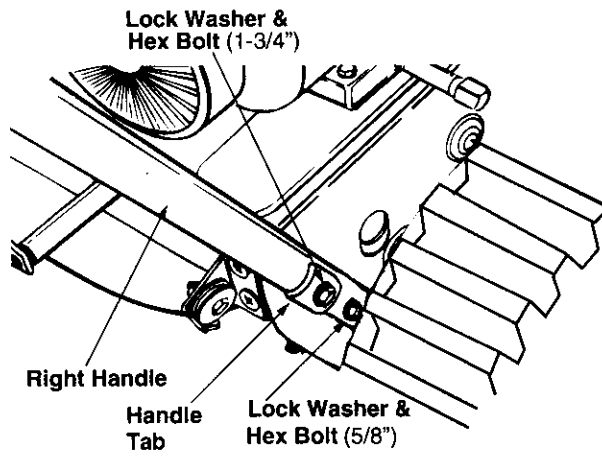

Figure 2
- Secure bottom hole on the handle to the snow thrower using 5/16 x 3/4" hex bolt and lock washer from the hardware pack (group A on page 5). Do not tighten at this time. See Figure 2.
- Place a handle tab, included in the hardware pack (group A), over the upper hole in handle so that the contour of the handle tab matches that of the handle. See Figure 2 .